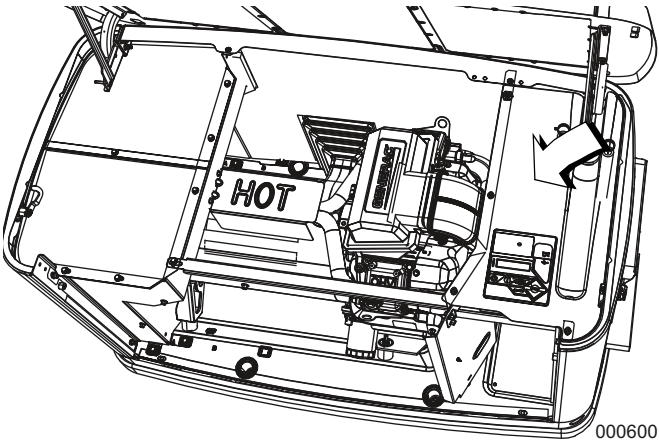

Figure 2-4. Inspect for Damage
- 7. Once the lid is open, remove the front access panel by lifting it up and out. Also remove the black panel, indicated by the arrow, over top of the customer connection area. See Figure 2-4